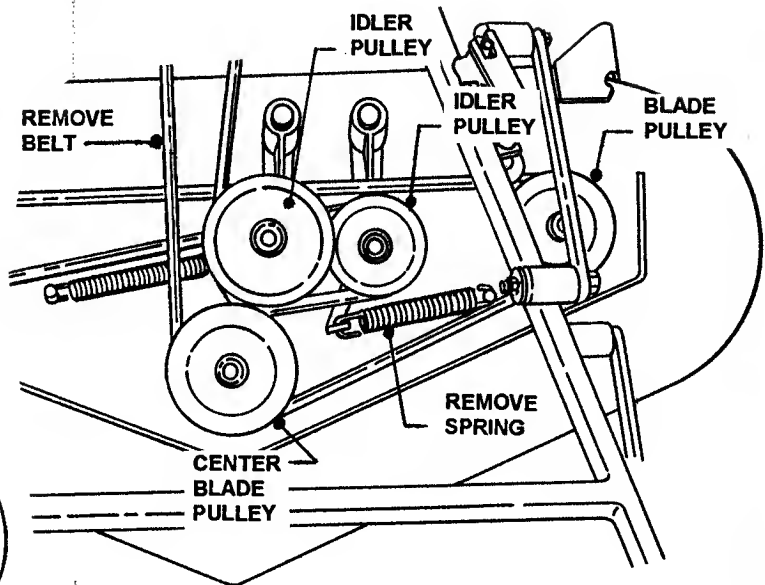

FIGURE 35
6. Remove old belt from right hand spindle pulley and center pulley bottom groove. See Figure 35.
1. Route new belt, part number 2-9261 for 48" & 52" decks, onto bottom groove of center pulley and right hand pulley. Refer to Figure 35.
2. Place idler adjusting rod through hole and install spring. Refer to Figure 35.